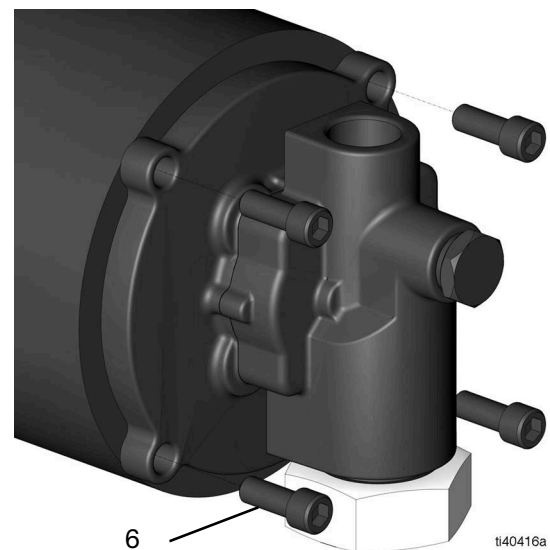

FIG. 4
5. Remove the four Allen screws (6) using a 5/16 in. (8 mm) hex wrench (FIG. 4).
3. Place and tighten the four Allen screws (6) using an 5/16 in. (8 mm) hex wrench (Torque 20 ft-lb, 27.1 N•m) (see FIG. 4).